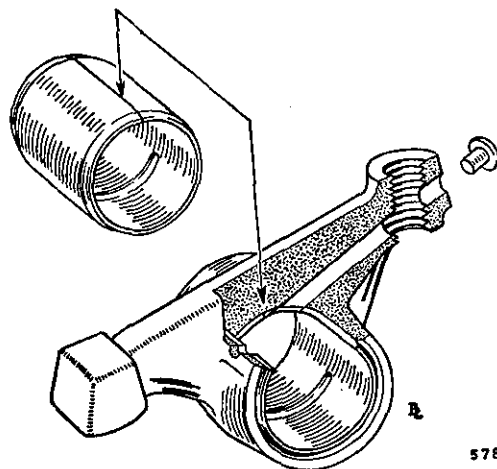

Fig. A.3
- (9) Remove the old and press in new bushes with Service tool 18G 226 and 18G 226 A.
- (10) Locate the joint of the bush at the top as shown in Fig. A.3.
- (11) Remove the adjuster screw.
- (12) Drill out the plug in the end of the rocker with a No. 43 drill (2.26 mm.) and continue the oilway through the bush.
- (13) Replug the end hole with a rivet welded in position.
- (14) Continue the hole in the top of the rocker barrel with a No. 47 drill (1.98 mm.).
- (15) Burnish-ream the bush to the dimension given in 'GENERAL DATA'.